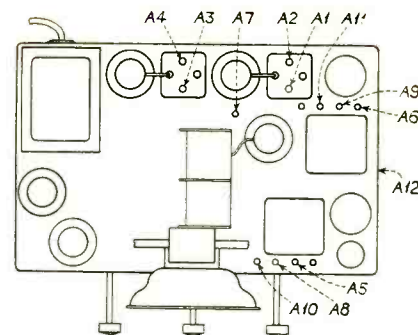

Fig. 2. Chassis view showing trimmer locations
(D) Adjust four i-f trimmers, A1, A2, A3, A4, located on the i-f transformers on top of chassis, see Fig. 2, until maximum output is obtained. During alignment, maintain as low a value of signal as will allow obtaining of accurate adjustment.